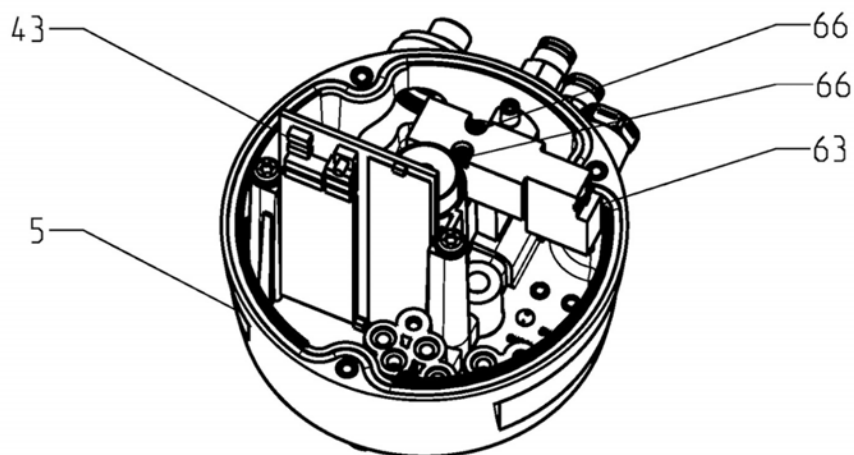

Fig.31
1. Change the five O-rings (42) of the base (5).
- for version 2PV (1x solenoid valve 24VDC/NO to Y2 and 1x valve plate to Y3), see Figure 31